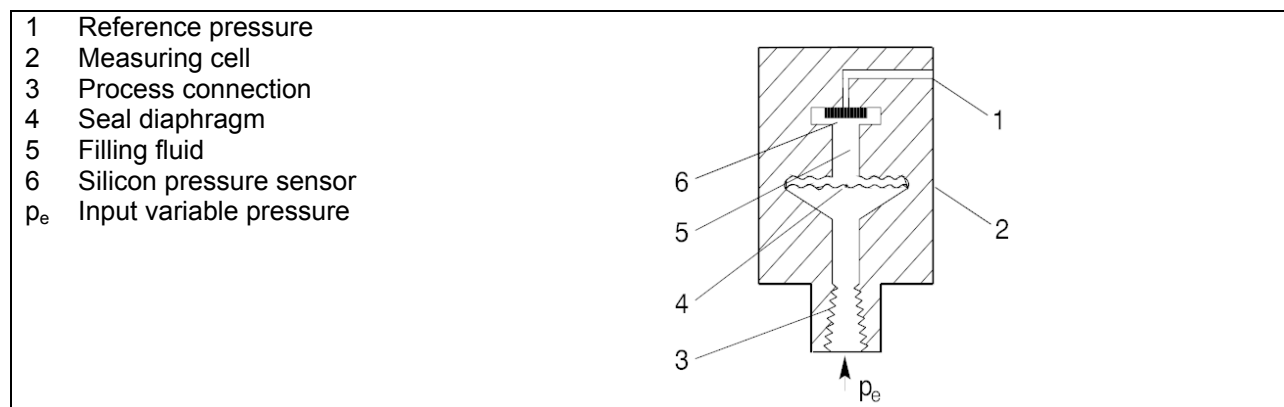

FIGURE 8-2 Pressure Measuring Cell
As shown in Figure 8-2, process pressure p_e is applied to the measuring cell (2) through the process connection (3). This pressure is applied to the seal diaphragm which flexes to transfer the pressure to the fill fluid (5) which in turn transfers the pressure to the silicon pressure sensor (6).